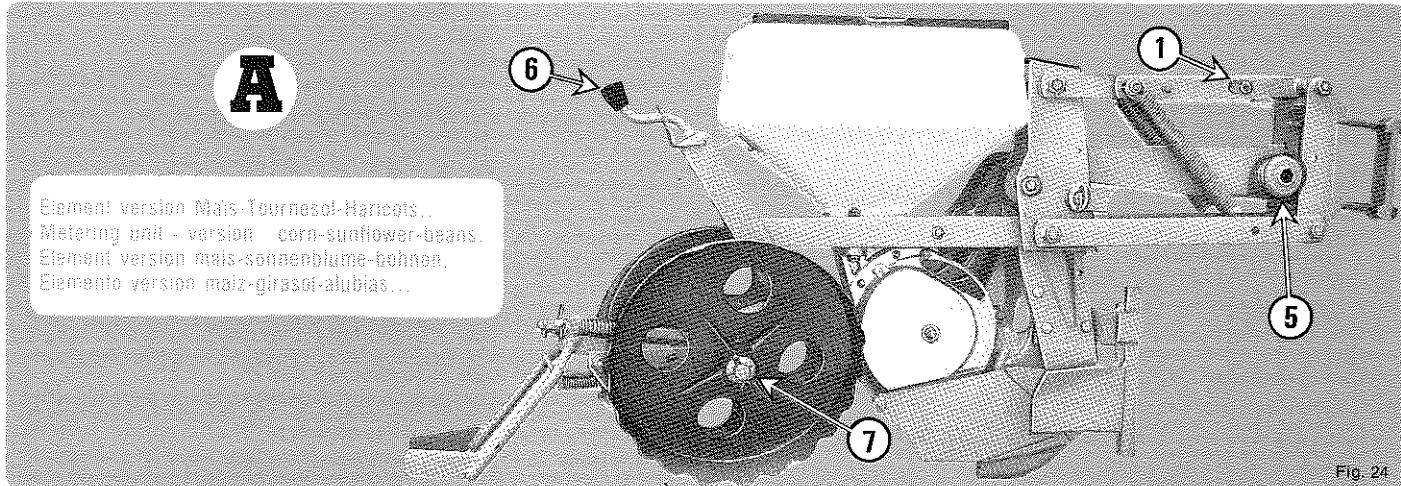

Fig. 24
### VERSION de base A type MAIS (fig. 24)
### BASIC VERSION « A » : CORN-MODEL (fig. 24)
- on the corn version (fig. 24 - 27 - 28) this pin remains in position (normally articulated parallelogram)
- fitted diagonally as on fig. 24, they stabilize the metering units in both directions.
### Grundausrührung A Typ MAIS (Abb. 24)